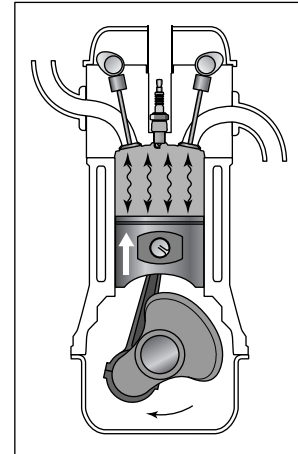

Figure 7-12: The compression stroke.
2. **Compression stroke:** See Figure 7-12. The piston moves back *up*, compressing the fuel/air mixture into a tiny space between the top of the piston and the top of the cylinder. This space is called the **combustion chamber** and also happens to be where the end of the spark plug enters the cylinder. The difference between the total space inside the cylinder and the space inside the combustion chamber is called the **compression ratio**. It indicates that the pressure has been raised from normal air pressure of 15 psi (pounds per square inch) to hundreds of psi, which makes the resulting explosion much more intense.